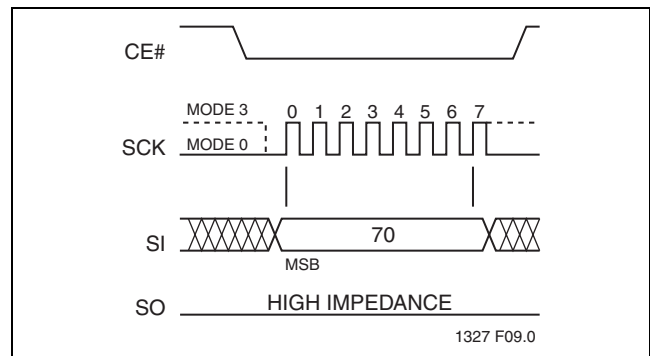

FIGURE 9: Enable SO as Hardware RY/BY# during AAI Programming
The hardware end-of-write detection method eliminates the overhead of polling the Busy bit in the Software Status Register during an AAI Word program operation. The 8-bit command, 70H, configures the Serial Output (SO) pin to indicate Flash Busy status during AAI Word programming, as shown in Figure 9. The 8-bit command, 70H, must be executed prior to executing an AAI Word-Program instruction. Once an internal programming operation begins, asserting CE# will immediately drive the status of the internal flash status on the SO pin. A '0' indicates the device is busy and a '1' indicates the device is ready for the next instruction. De-asserting CE# will return the SO pin to tri-state.